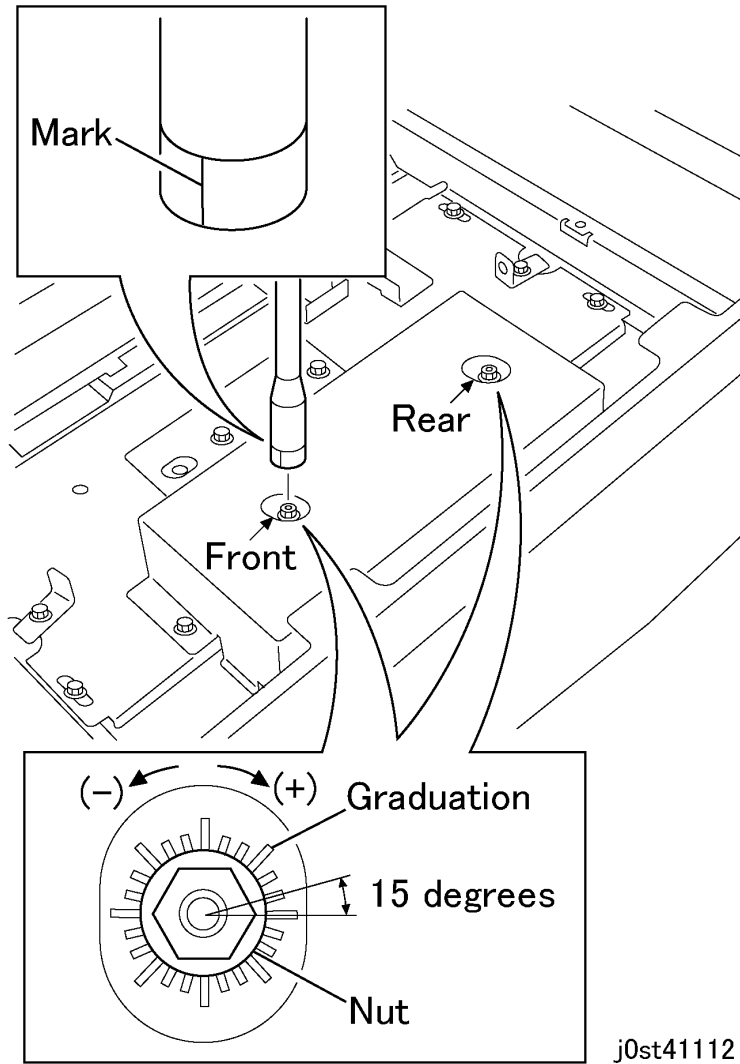

Figure 6 Making the mark(j0st41112)
13. Remove the Platen Glass. Turn the respective nuts using the Box Driver according to the direction and amount given in Step 11. (Figure 6)